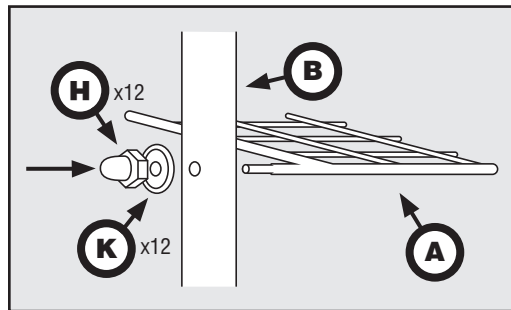

Figure 1
- 1** Attach grid (small openings) (**A**) to bottom of large frame (**B**) using nuts (**H**) and washers (**K**) as in **Figure 1**.